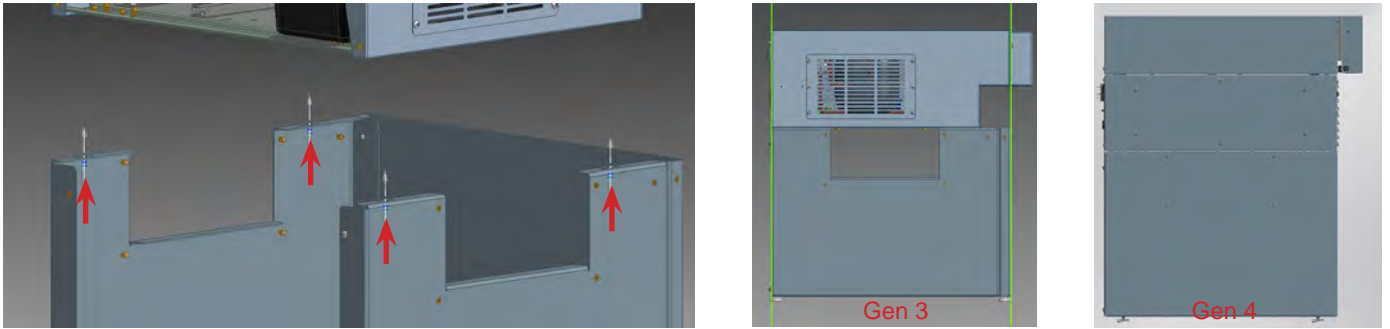

Figure 9
- Using two people to lift, carefully place the unit on the pedestal aligning the four threaded holes located where the leveling feet were with the four open holes on the top of the pedestal. The refrigerator or freezer should be flush with the front panel and back panel of the pedestal (Figure 9).